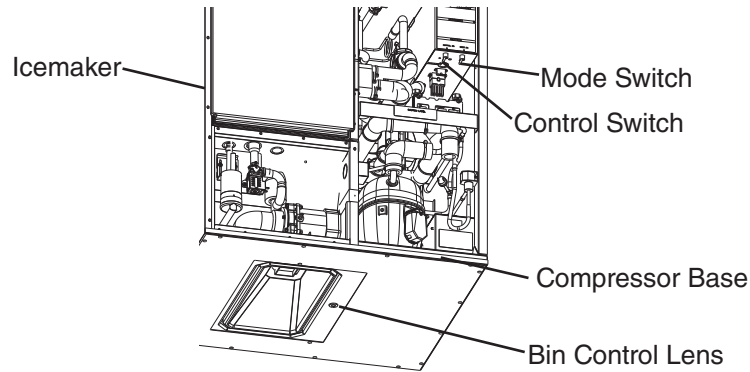

Fig. 15
- 6) 1 min. fill cycle begins. Place an object 5" to 7" (127 to 178 mm) away from the bin control lens. See Fig. 15. 15 sec. later, the icemaker shuts down. Remove the object from the bin control lens. 30 sec. later, the icemaker restarts.